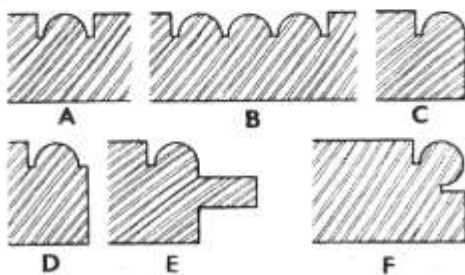
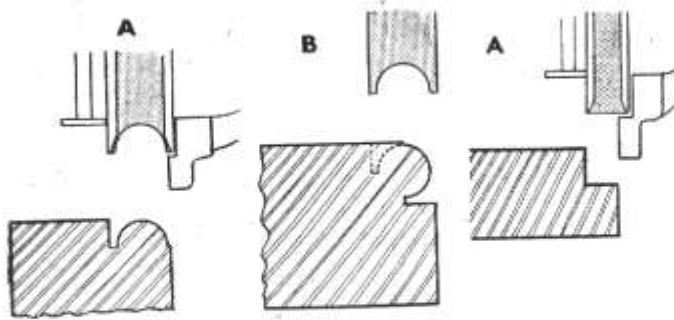

FIG. 6. VARIOUS FORMS OF BEADS
FIG. 10. RETURN BEAD BEING WORKED
Beading.—Beads can be worked along the centre of a board (A, Fig. 6) or along the edge. If at an edge the bead can be immediately at the edge as at (C), or a quirk can be allowed as at (D). Alternatively a return bead as at (F) can be formed.
When the bead is immediately at the edge as at (C) the fence is passed on so that it just covers the quirk of the cutter as shown in Fig. 9. As before set the depth stop so that the plane ceases to cut as soon as the complete bead has been formed. If the effect (D), Fig. 6, is required the fence is set immediately to one side of the cutter.
The return bead (F), Fig. 6 makes a useful finish for vertical corners. Work one bead first as at (A), Fig. 10, setting the fence so that only the slightest quirk is formed at the edge. Reverse the wood, and, with the plane at the same setting, complete the bead as at (B). Incidentally, approximately round rods can be made as shown in Fig. 8 by working a bead at each side of a piece of wood of suitable thickness. They are not so true as turned rods or dowel rods, but there are purposes for which they are satisfactory.